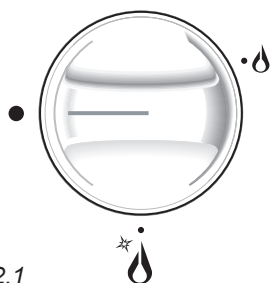
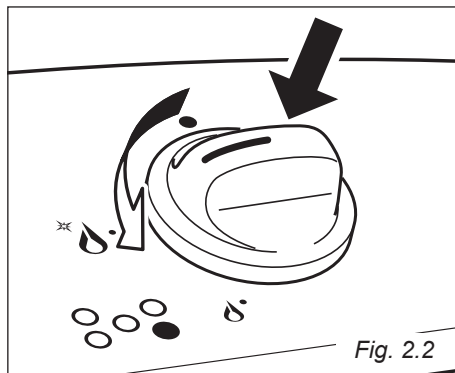
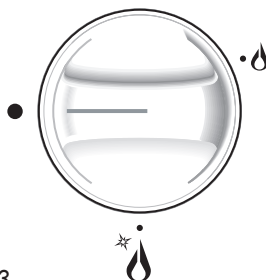

Fig. 2.1
Fig. 2.2
Fig. 2.3
Gas flow to the burners is adjusted by turning the knobs (illustrated in fig. 2.1 - 2.3) which control the valves.
1. Press in the corresponding knob and turn counter-clockwise (fig. 2.2) to the full flame position marked by the “✧” symbol (fig. 2.1); hold the knob in until the flame has been lit.
1. Press in the corresponding knob and turn counter-clockwise (fig. 2.2) to the full flame position marked by the “” symbol (fig. 2.3); hold the knob in until the flame has been lit.